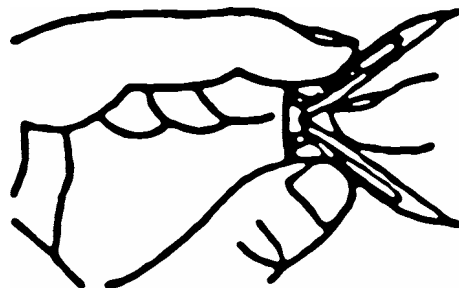
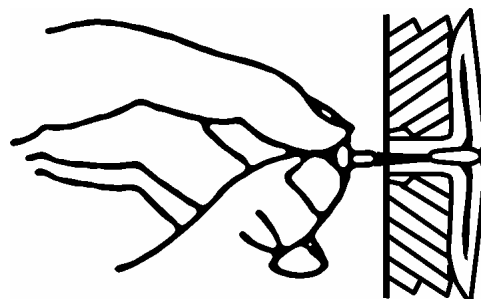

Figure 2
Figure 3
4. To use wall anchors, drill holes at marked location using 5/16" drill bit. Fold wall anchor (see Figure 2) and insert (wings first) into hole. Tap anchor flush into wall. For thin walls, insert red key into wall anchor and push to "pop" open anchor wings (see Figure 3).